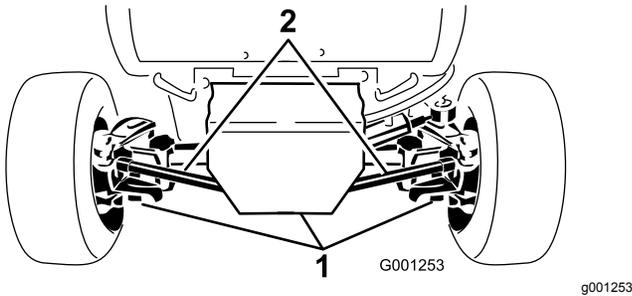

Figure 62
2. Clean the areas around the 3 drain plugs (Figure 62).